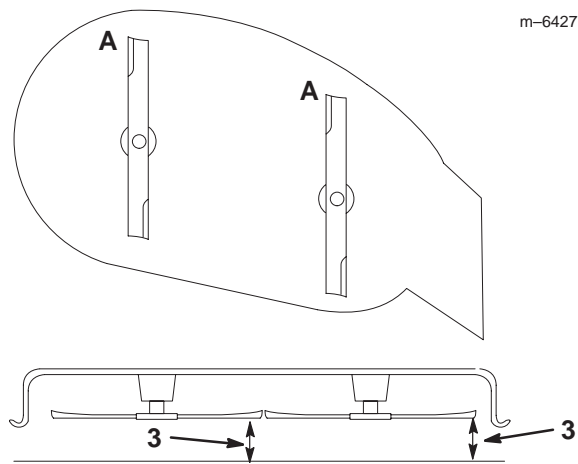

Figure 26
1. Rotate the blades until the ends face forward and backward (Fig. 26). Measure from a level surface to the cutting edge, position **A**, of the blades (Fig. 26). Note this dimension.